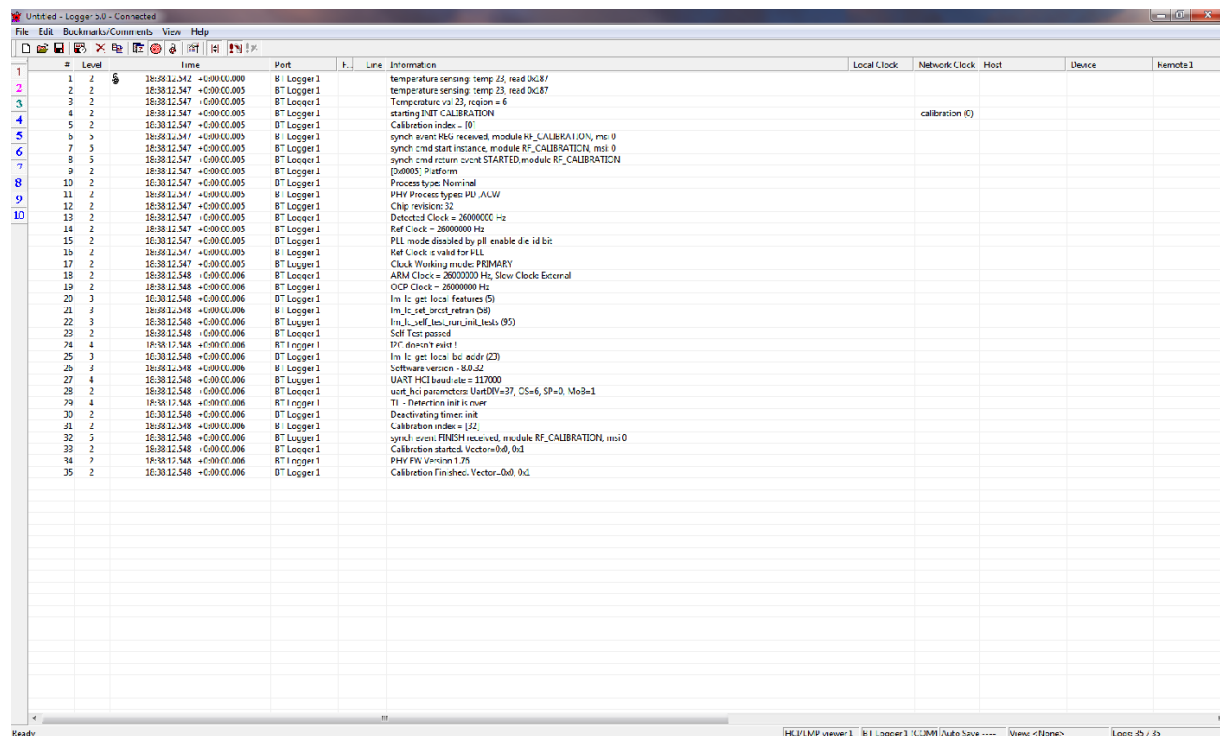

Figure 3. Logger Main Working Window
1. Double-click the Logger icon to start the Logger application. The software initializes and displays the main working window (see Figure 3).